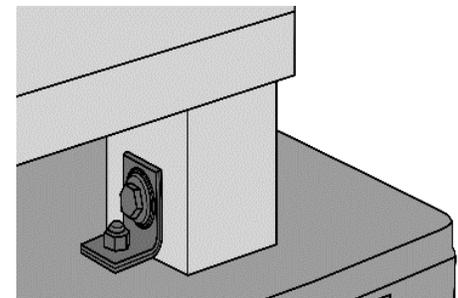

Figure 4—Removing Nut and Bolt Sets
- 5 Remove all nut and bolt sets that secure the fastening brackets to the cabinet's feet and pallet (see *Figure 4*).**